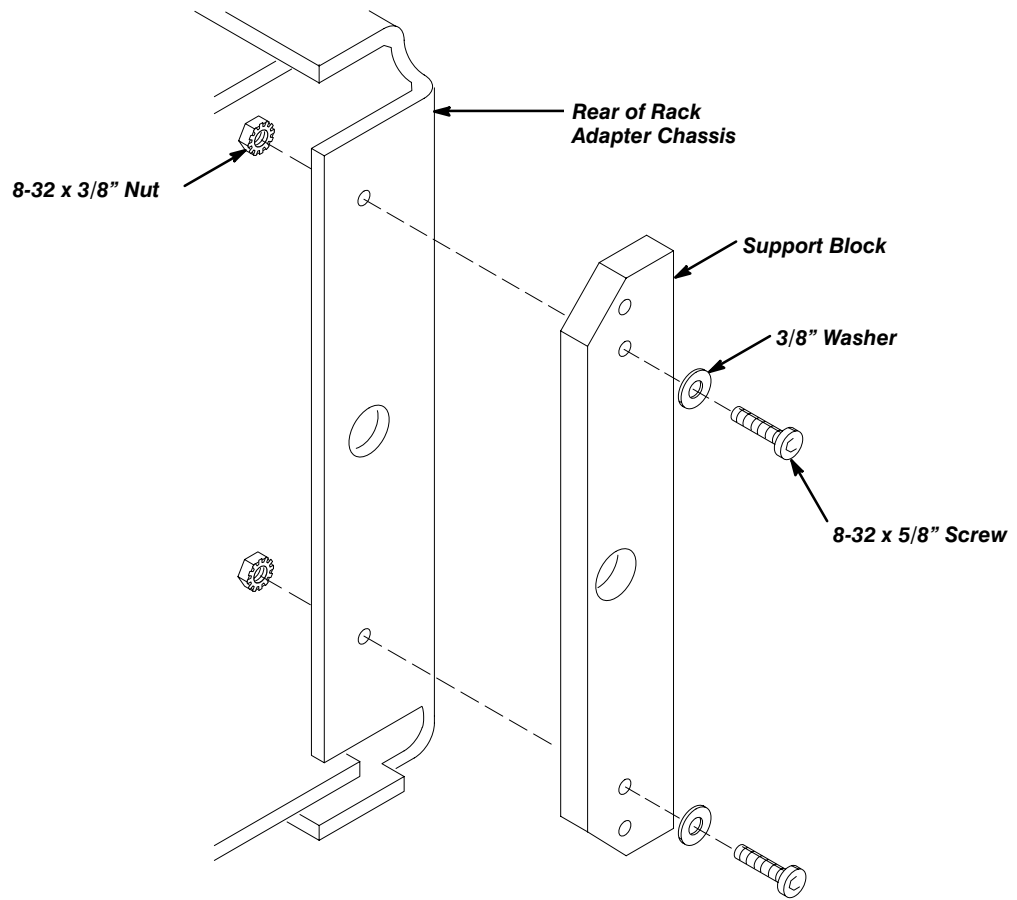

Figure 23: Attach the Support Blocks
4. Install a support block on each rear corner of the rack adapter chassis. See Figure 23.